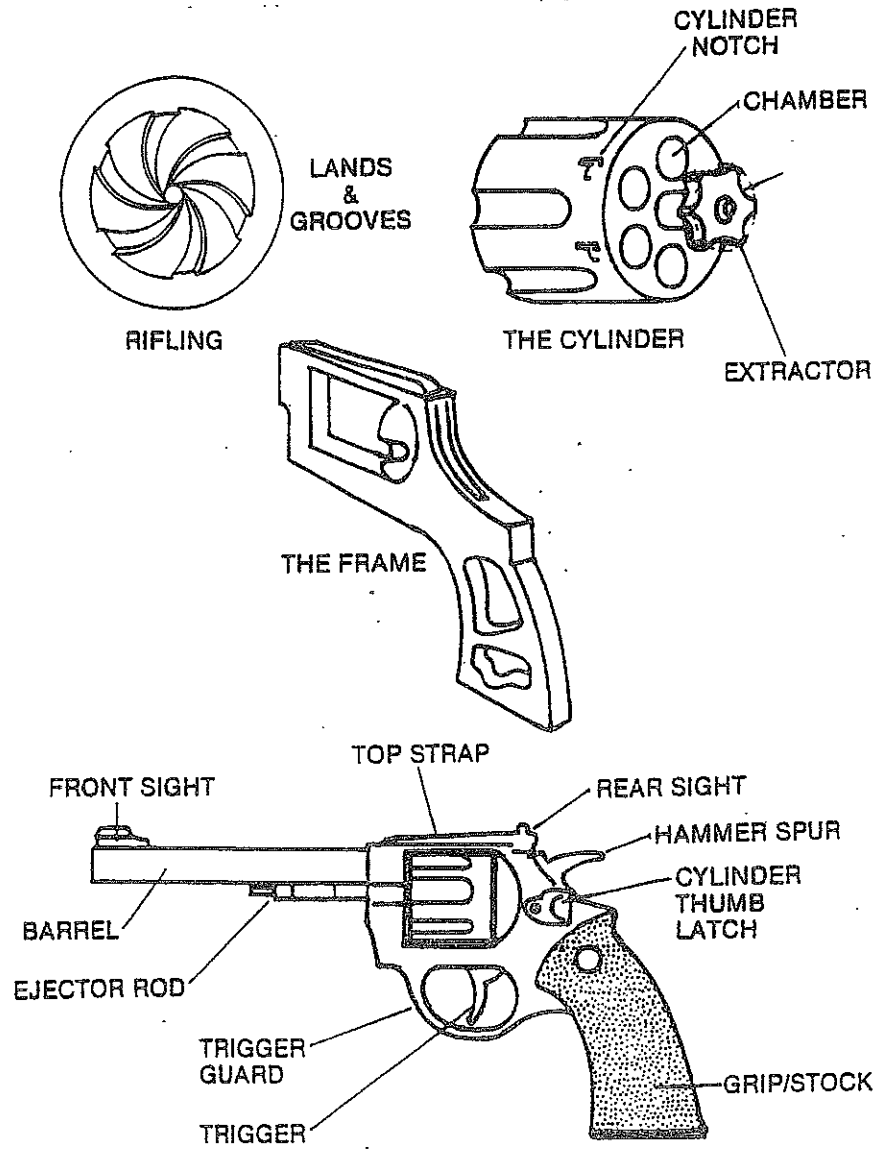

FIGURE 1
A. Frame (Figure 1).
B. Barrel (Figure 1).
D. Cylinder (Figure 1).